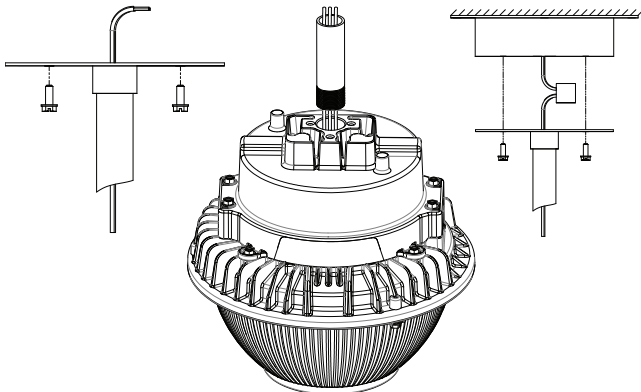

Figure 1
1. Feed wires through 3/4" Rigid Pendant conduit and thread pendant conduit into fixture top housing (figure 1 - left).
3. Make necessary wire connections in the customer-provided waterproof junction box (see figure 1- right).